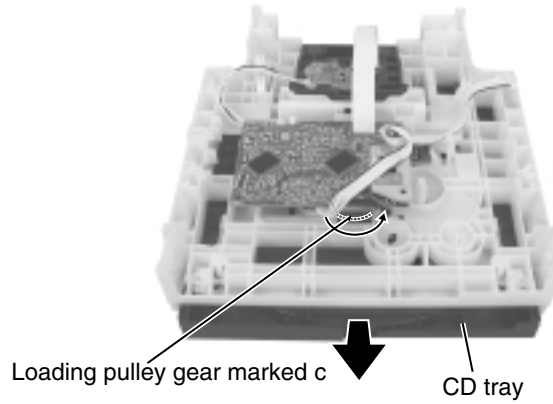

Fig.26
■Removing the CD tray (See Fig.26 to 28)